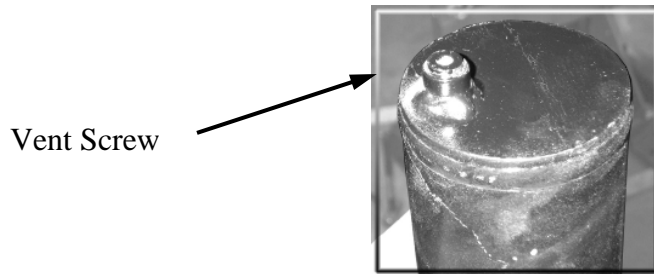

Figure 8
4. Position a ladder behind the lift so you can reach the top of the cylinder. With a 3/16" allen wrench and a rag, slightly open the vent screw in the top on the cylinder, see **Figure 8**, while surrounding the port with a clean